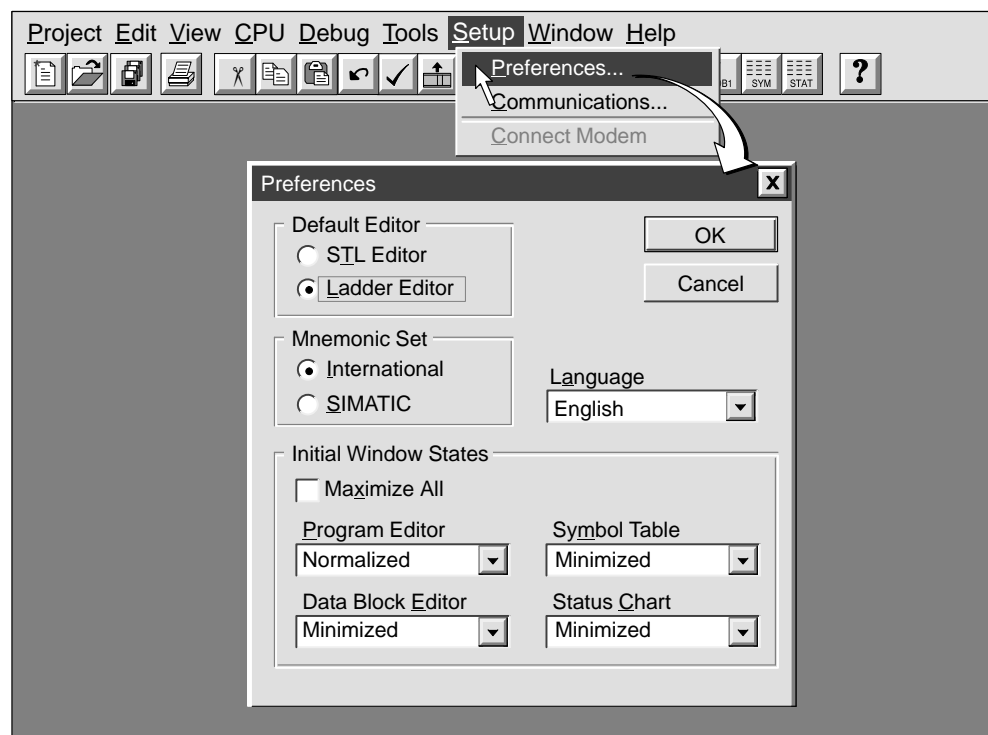

Figure 3-19 Selecting Your Programming Preferences
1. Select the menu command **Setup ► Preferences...** as shown in Figure 3-19.